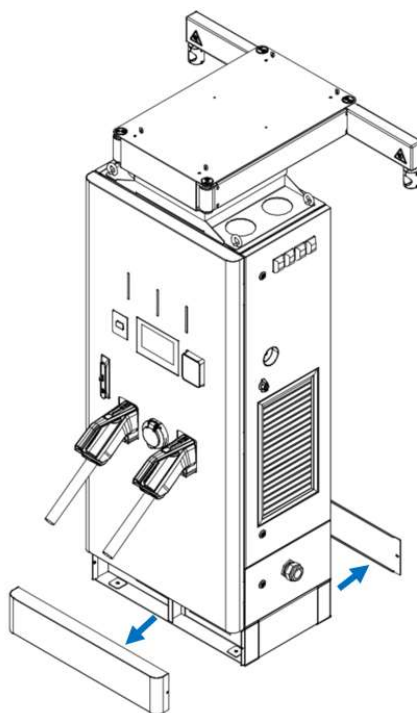

Figure 6 Schematic diagram of sealing plates on charger
- (1) First use a Phillips screwdriver to remove the front, rear sealing plates of the base, as shown in Figure 6.